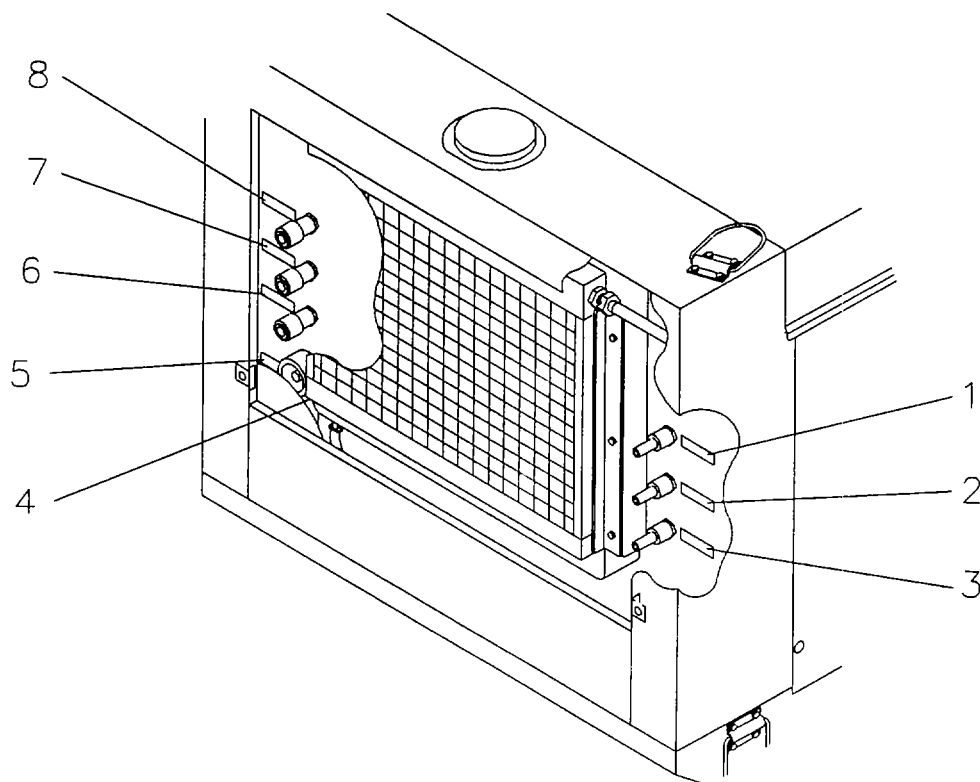

Figure 2-5. Rear Access Decals.
2.11.2 Rear Access Decals. (Figure 2-5).